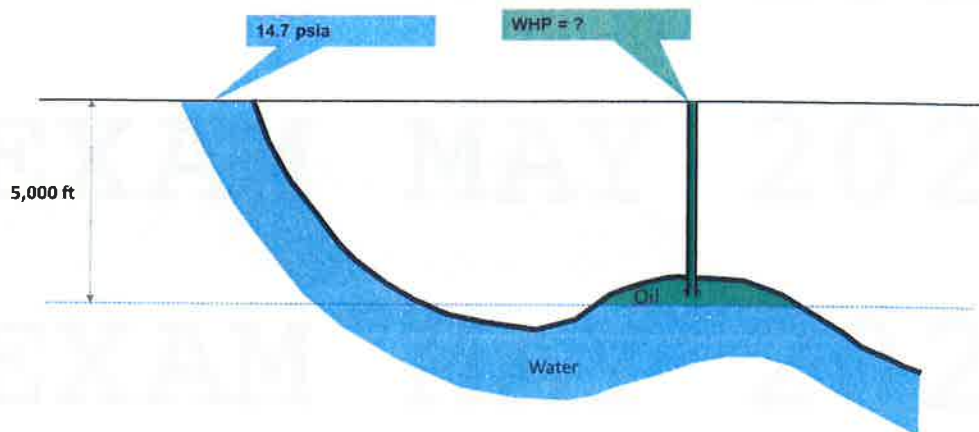

FIGURE Q2a: Reservoir schematic
2. **FIGURE Q2a** shows a reservoir schematic. The water is connected from the surface to the reservoir, and the oil is trapped by cap rock. Consider constant water and oil densities of 62.43 lb/cf and 54 lb/cf, respectively. Oil-water contact is 5,000 ft below the surface.